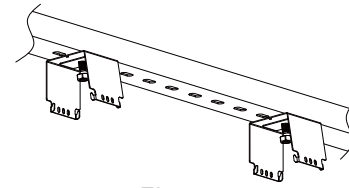

Figure5
- Step1. Mount the bracket on the rail or ceiling (Figure 5) ;